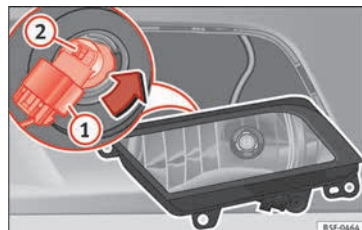

Fig. 114 Front fog light.
- Remove connector » Fig. 114 ① from the bulb.
- Turn the bulb holder » Fig. 114 ② anti-clockwise and pull.